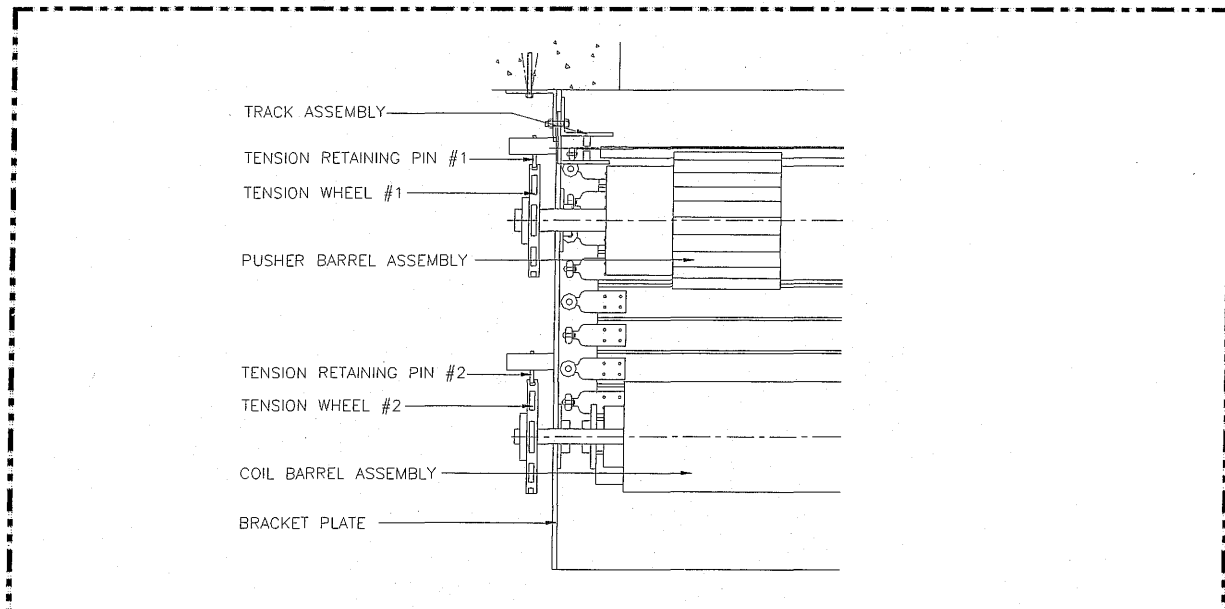

FIGURE 1
1. TENSION RETAINING PIN #1 MUST NEVER BE REMOVED (REFER TO FIGURE 1).
2. TENSION RETAINING PIN #2 MUST NOT BE REMOVED PRIOR TO POWER AND CENTRAL ALARM SYSTEM CONNECTION TO FIRE SHUTTER MOTOR OPERATOR AND MUST BE REMOVED PRIOR TO ANY OPERATION OF THE SHUTTER (REFER TO FIGURE 1).
IMPORTANT NOTE: AFTER CONNECTION AND ACTIVATION OF THE LINE VOLTAGE AND THE FIRE ALARM HAS BEEN MADE TO THE MOTOR OPERATOR MAKE SURE TO REMOVE TENSION PIN #2 PRIOR TO ATTEMPTING ANY OPERATION OF THE SHUTTER. TENSION PIN #2 MUST BE REMOVED PRIOR TO ANY OPERATION OF THE SHUTTER (REFER TO FIGURE 1). OPERATING THE SHUTTER PRIOR TO REMOVING TENSION PIN #2 WILL RESULT IN DAMAGE TO THE SHUTTER AND/OR POSSIBLE SERIOUS INJURY TO PERSONNEL.